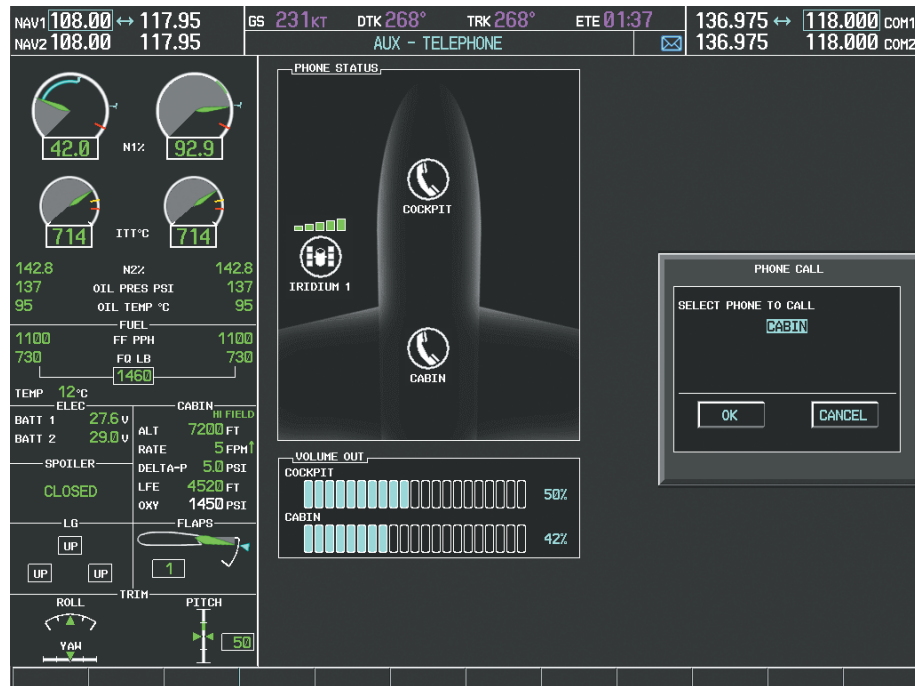

Figure 8-79 Initiating a Cabin Call
- 2) Select the **DIAL** Softkey on the MFD. A display similar to Figure 8-79 will be shown.